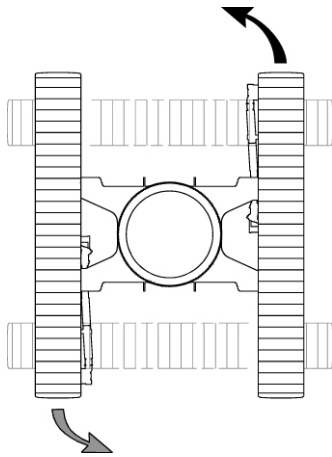

Figure 3-28. Counter-rotate Left
11. To COUNTER-ROTATE LEFT (Figure 3-28), move the right crawler control handle forward from the neutral position and move left crawler control handle back from the neutral position.